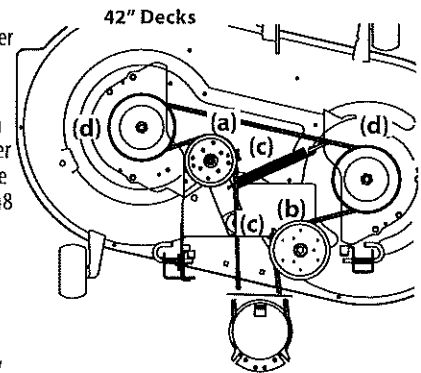
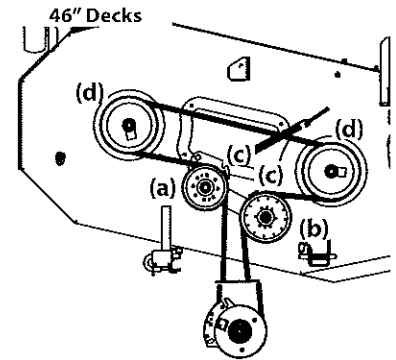
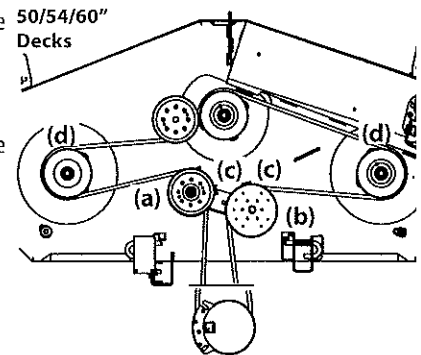

Figure 47
Figure 48
Figure 49
2. Loosen, but do not remove the hardware on the right (a) and left idler pulley (b). Refer to Figure 47 for 42" decks, Figure 48 for 46" decks and Figure 49 for 50", 54" and 60" decks.